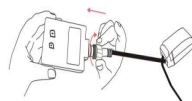

Fig. 3
5. Screw the collar completely onto the Power Supply turning clockwise (Fig. 3)